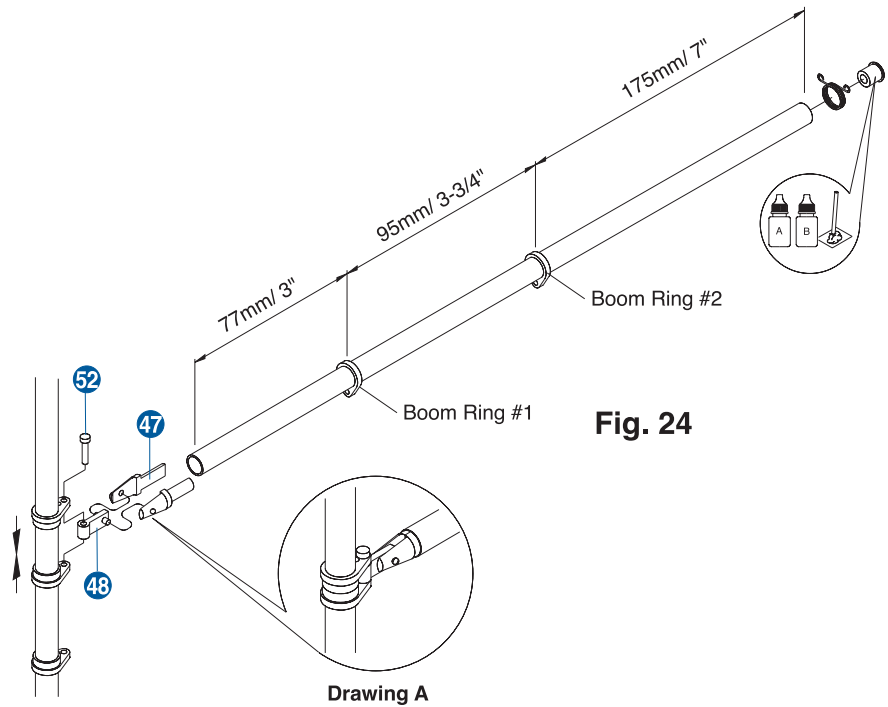

Fig. 24
4. Assemble the two Boom Mount **47** halves onto the Boom Swivel **48**, then epoxy into the end of boom as shown in Fig. 24.